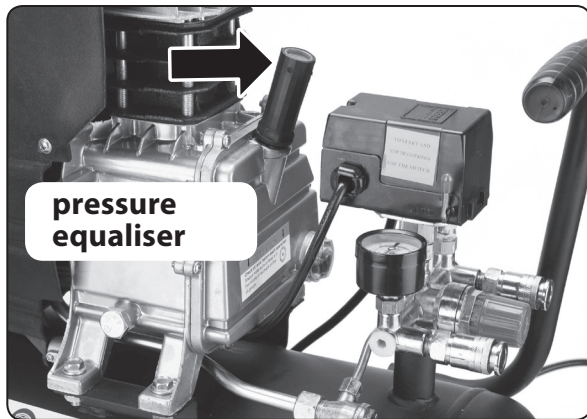

Fig. 3
4) After pouring oil into the hole, screw in the air pressure equaliser into the hole in the crankcase and not the hole plug with the thread with which the compressor was supplied from the factory, see fig. 3.